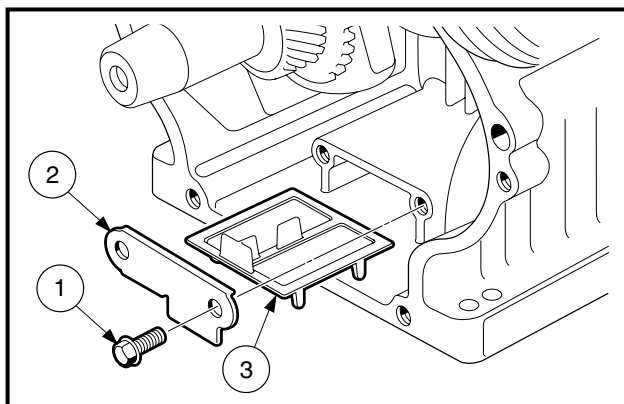

Figure 2-83 Oil Screen Removal
1. Remove the two bolts (1) to take out the oil screen plate (2) and the oil screen (3) (**Figure 2-83, Page 2-36**).